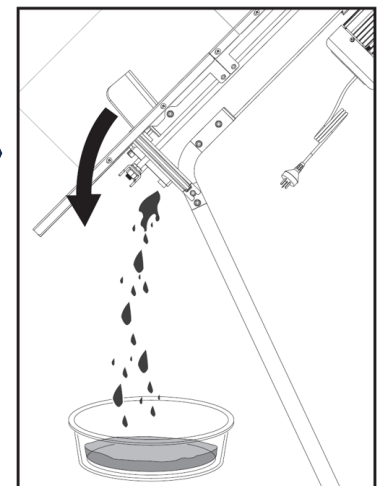

Fig. 16b
3. Tilt the log splitter as shown in Fig. 16b and collect the used hydraulic oil in a container with a capacity of at least 4 liters.